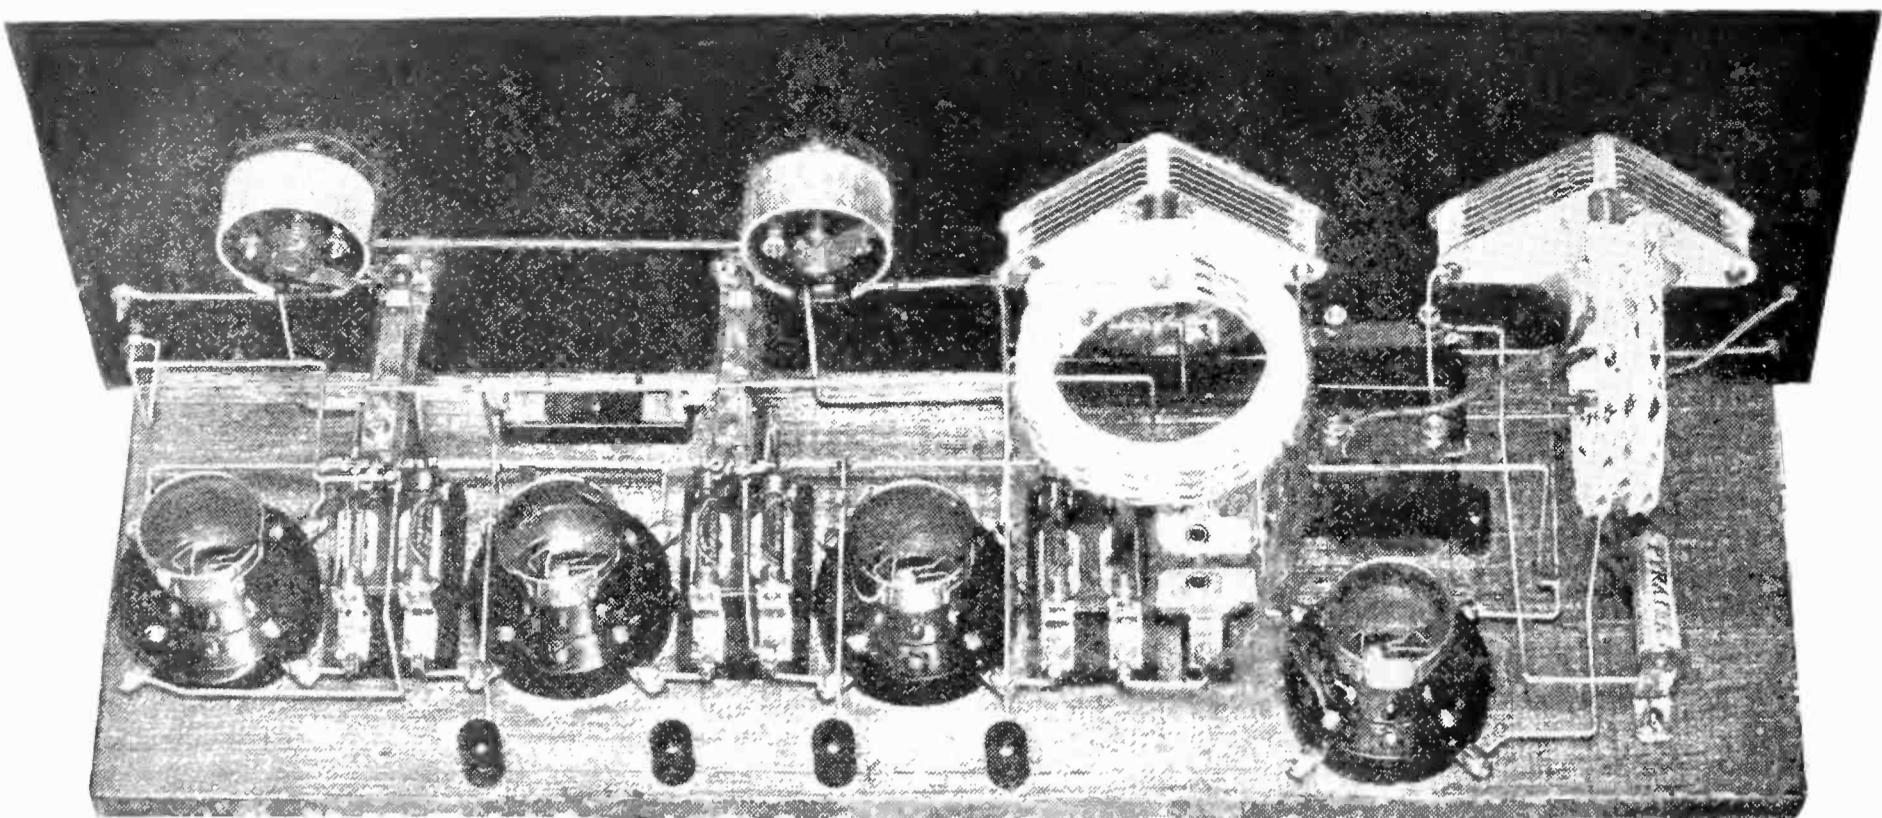

FIG. 5
**T**HIS month's suggestion is a handy little device that only recently found its way to our own work-bench. Photograph 10 shows the Nestor "Bend-Rite"—a genuine aid to the art of neat wiring. It is a wrench arrangement that may be used for bending large and small bus-bar wire, and for making eye holes to pass both number six and number eight screws. It is in this last operation that the "Bend-Rite" shows its true worth, and the behind the panel neatness of the receiver shown in Fig. 5 pays tribute to this handy device.